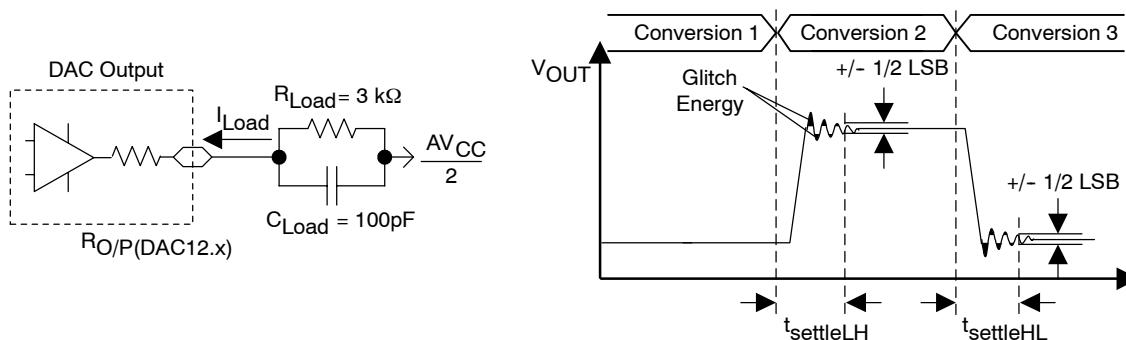
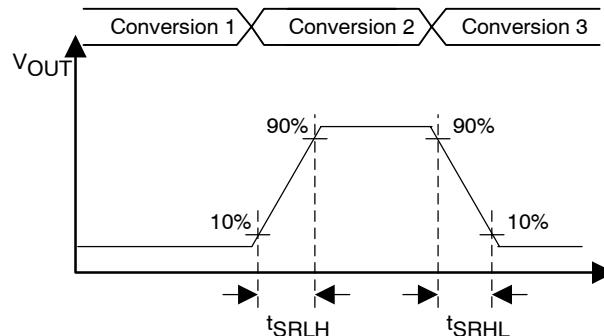

Figure 45. Settling Time and Glitch Energy Testing
Figure 46. Slew Rate Testing
12-bit DAC dynamic specifications, V_{ref} = V_{CC}, DAC12IR = 1 (see Figure 45 and Figure 46)
1. R_{Load} and C_{Load} are connected to A_{VSS} (not A_{VCC}/2) in Figure 45.